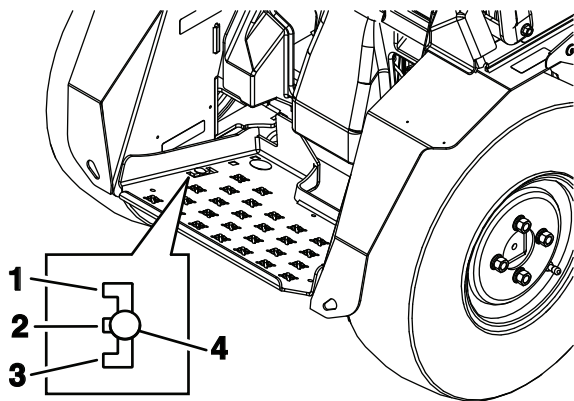

Figure 14
6. On each side, move the isolators to the desired comfort level based on one of the 3 slots (Figure 14).